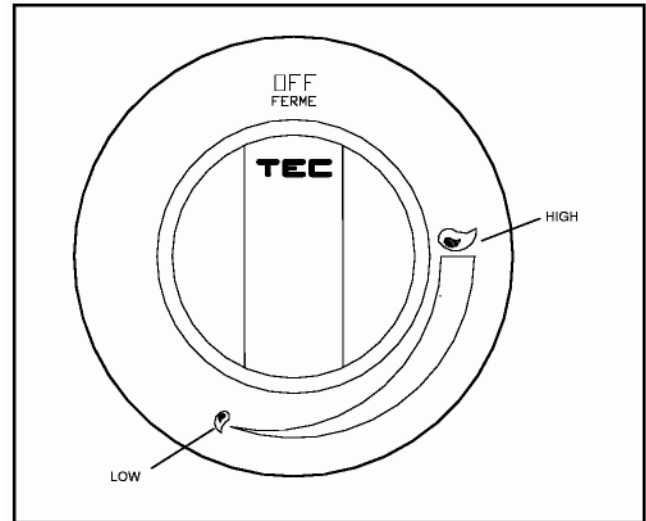

Figure 10. Burner Output Knob
1. Remove the Burner Output Knobs from the packaging material. (see Figure 10 & 11, Page 10 or set up sheet included with grill)
1. Remove the Burner Output Knobs from the packaging material. (see Figure 10 & 11, Page 10)
3. Depress and rotate the Burner Output Knob to HIGH. (See Figure 10, Page 10)